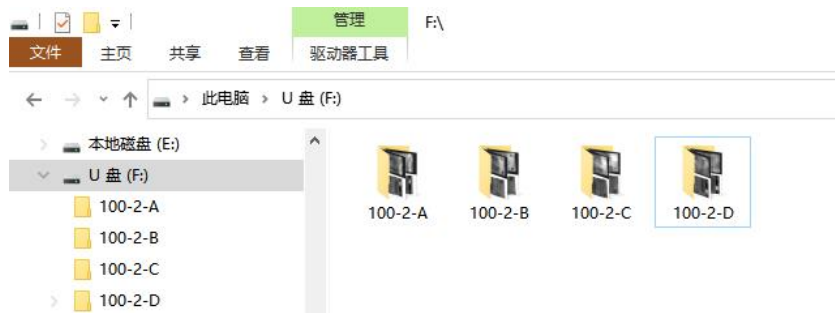

Figure 4 Data collected from corresponding currency folders
2.3 After data collection is completed, you will receive the following data. As shown in Figure 4